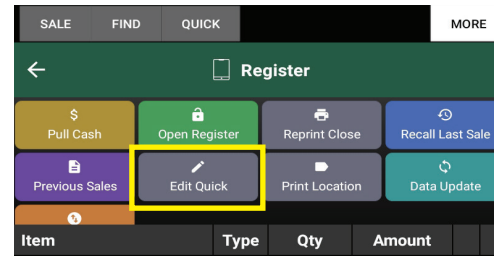

Figure 48
1. On the Sales screen, tap More > Register > Edit Quick (See Figures 48).